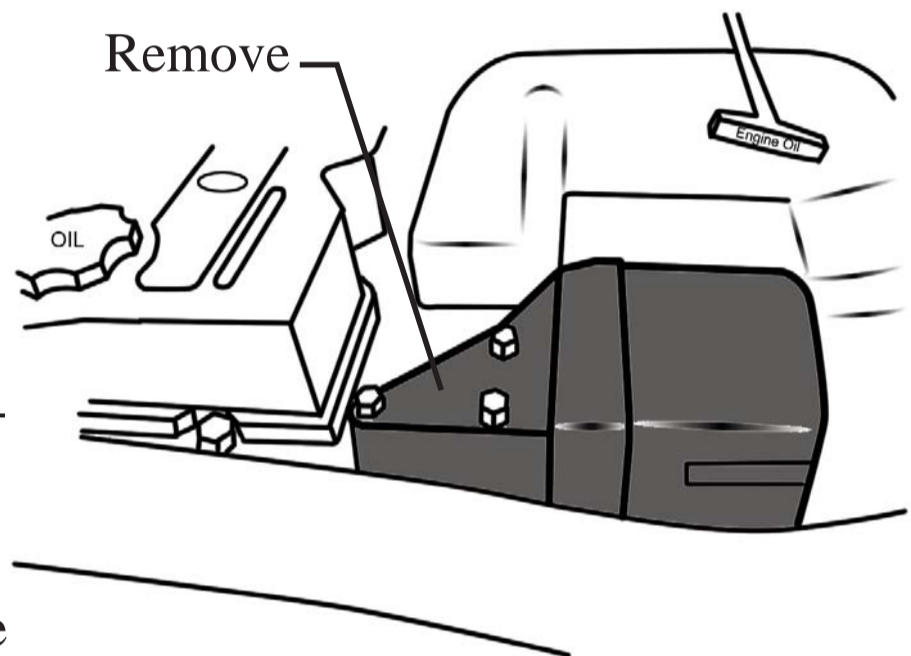

Figure 7 - Throttle Position Housing
1. Unbolt and remove the casting that attaches to the Throttle Position Sensor (TPS) housing to expose the fuel pump and the associated control wire. (Figure 7)